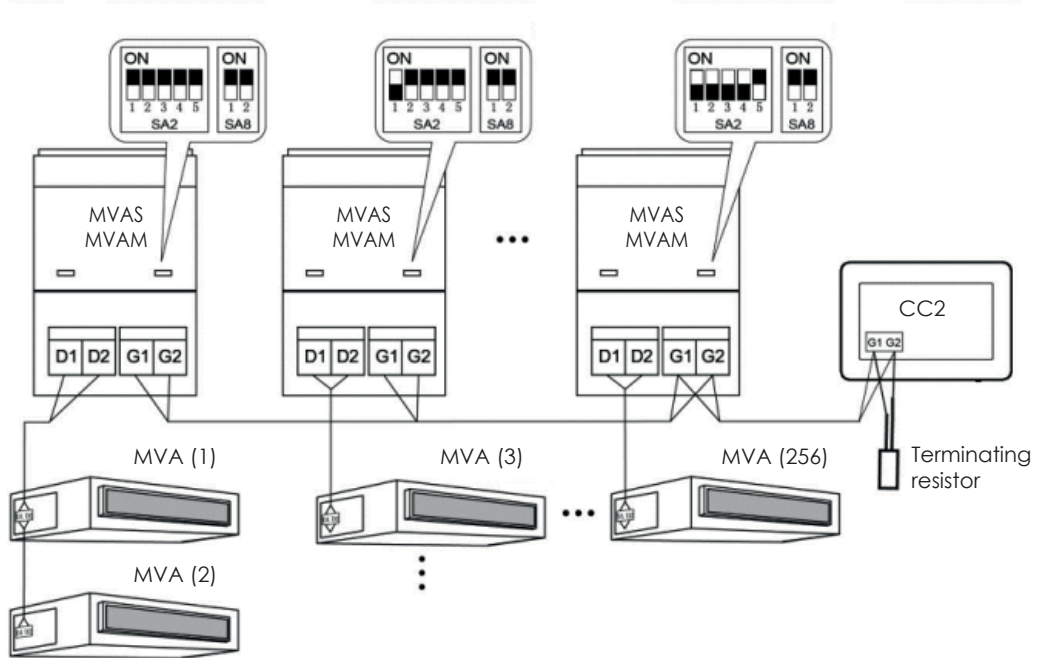

Fig. 3.5 Centralized controller connected to the external network
3. If the centralized controller has to be connected to the network of the outdoor unit, carry out the connections according to fig. 3.5. The centralized controller can only be connected with the terminal system of the external network. Add a resistor corresponding with the communication cables on ports G1 and G2.